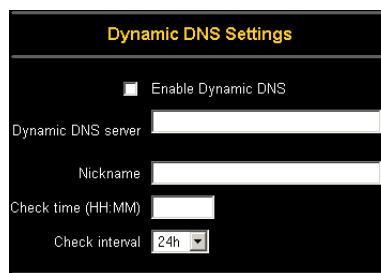

Figure 5.20: Dynamic DNS configuration panel
2. Enter the Dynamic DNS Settings configuration dialog as shown in Figure 5.20 (Menu → Network Settings → Dynamic DNS Settings)